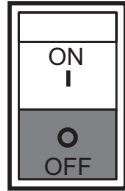

Figure 49. Circuit Breaker OFF (GFCI Test)
6. Also verify that the main circuit breaker (Figure 49) switch trips to the **OFF** position.